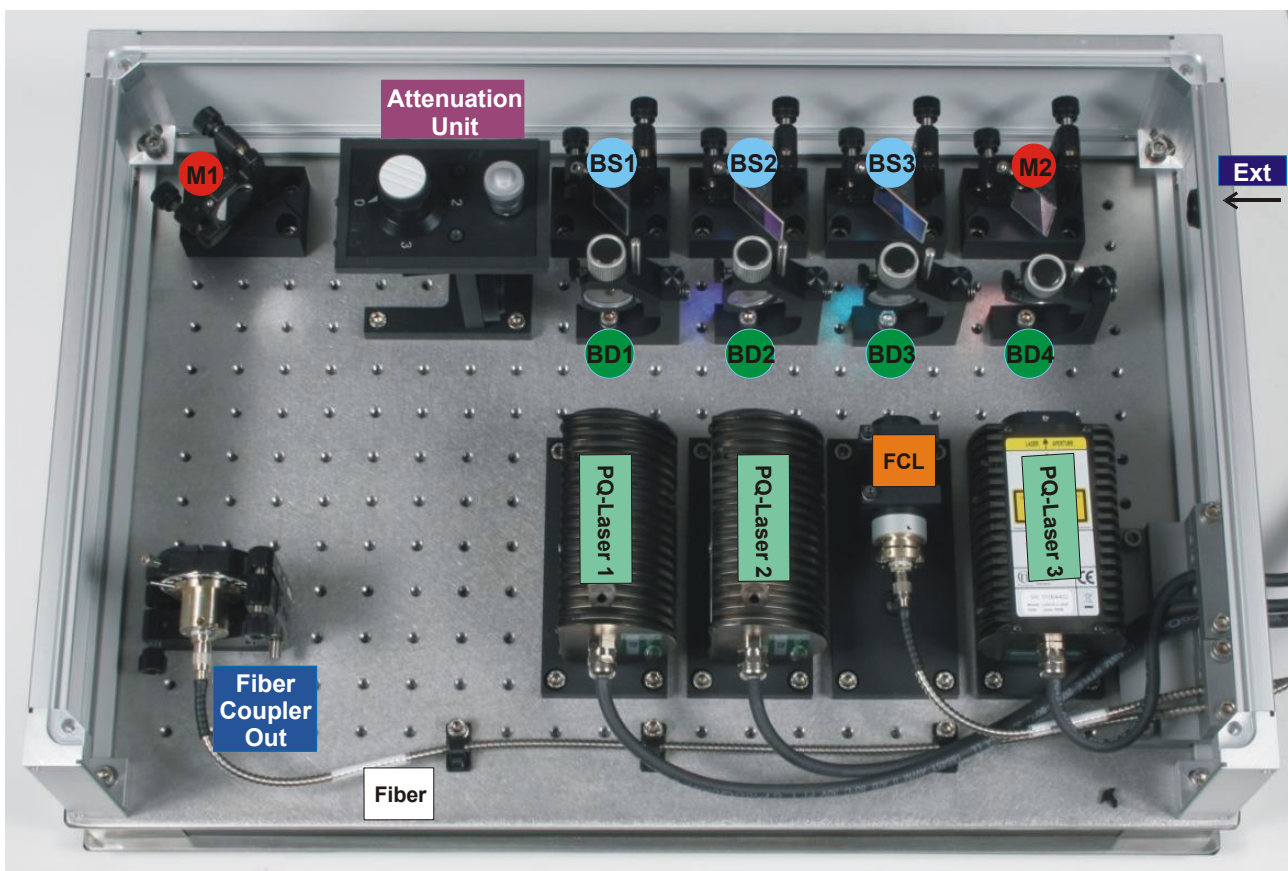

Fig. 2.1: Standard configuration of the LCU with three internal Diode-Laser-Heads (LDH) from PicoQuant and a fiber coupled laser (FCL).
The **Laser Coupling Unit (LCU)** couples one or more laser beams into a polarization maintaining single mode (PM-SM) fiber. Up to four laser heads from PicoQuant can be mounted inside the LCU. Additional lasers can also be included using the free laser entrance port **Ext** (see Fig. 2.1).
The LCU provides a graded and a continuous intensity attenuation by two different elements (**Attenuation Unit** see Fig. 2.1 and 2.2). With the filter wheel the attenuation is adjustable in three steps by changing the filter in the beam path.
15. Do **not** touch the alignment of Mirror 1 **M1** of Fig. 2.1.